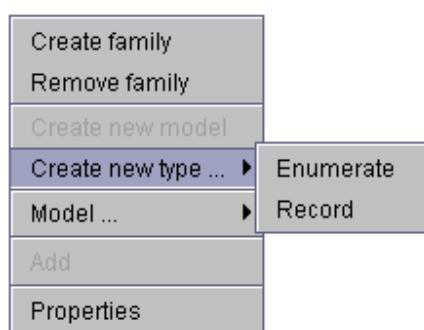

Figure 105 : Contextual menu – Create Family
- ♦ Display the contextual menu with the mouse right button (Figure 105) or use the **Library** menu.
- ♦ Click with the mouse right button to gain access to the contextual menu (Figure 105) or use the **Library** menu.
- ◆ Click with the mouse right button to gain access to the contextual menu (Figure 105) or use the **Library** menu.